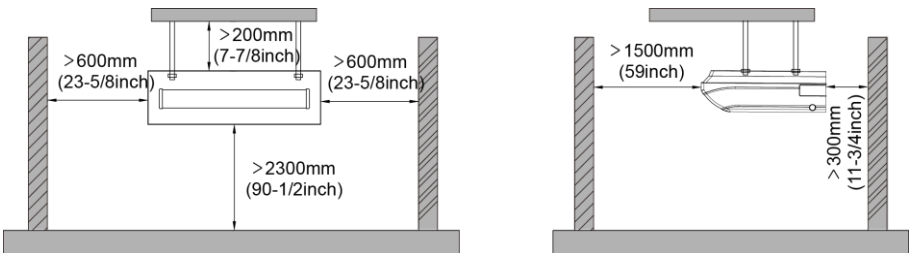

Fig. 3.1
- Leave service space around the unit as required in Fig. 3.1.